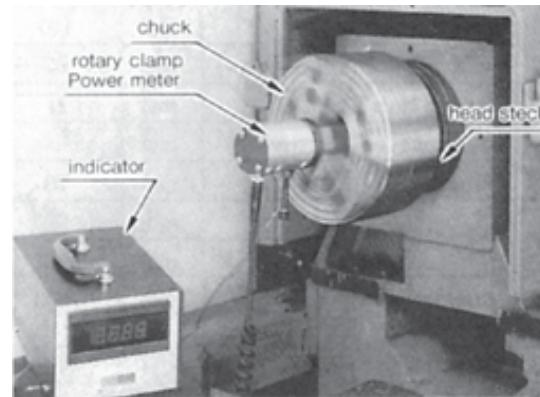

FIG. 2 Method for measuring Clamp force
- (1) The top jaw is "LMC" standard soft jaw.
- (2) The supplied grease is "LMC" recommended grease (refer to pg. 29, table 10).
- (3) The top jaw mounting bolts should be torqued (refer to pg. 21, table 8).
- (4) The draw bar pull is at the maximum allowable.
- (5) The hydraulic unit must supply 20 liters/min. to hydraulic actuator for maximum draw bar pull.
- (6) The correct way to measure in grip force is shown in FIG. 2.